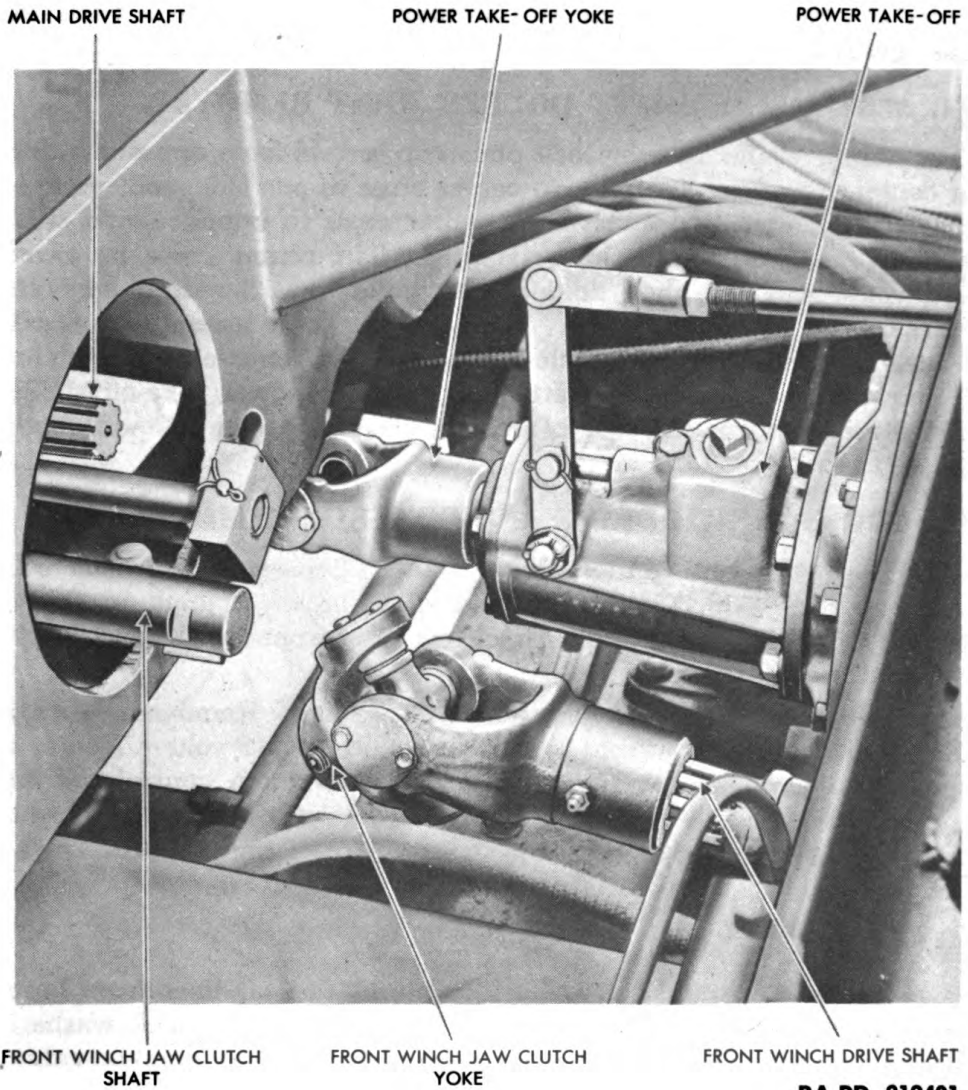

Figure 6 — Main Drive Shaft and Front Winch Shaft Disconnected
a. Remove four bearing lock plate cap screws from opposite sides of center cross (fig. 23). Drive center cross to one side, and remove the bearing assembly. Drive the center cross to opposite side, and remove opposite double joint bearing. Tilt center cross to clear end yoke boss and slide double joint yoke toward rear of vehicle onto main drive shaft spline. Slide double joint assembly toward front of vehicle until yoke is clear of spline, and remove from vehicle. Remove cotter pin and nut attaching yoke to power take-off shaft, and drive yoke toward rear of vehicle clear of power take-off shaft (fig. 6).
a. **Remove Front Winch Drive Shaft.** Loosen socket head set screw in front winch end yoke, and slide universal joint assembly toward front of vehicle until it is clear of the front winch jaw clutch shaft (fig. 6).